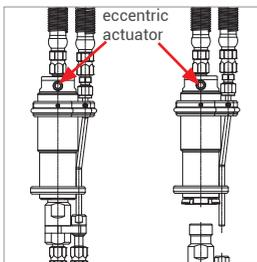

Figure 12
- ▶ Place the receptacle insert (Pos. 7) with the mounted filling hose into the coupling body (Pos. 1) and, if provided, onto the gas recirculation (Pos. 6). (*Figure 12*).